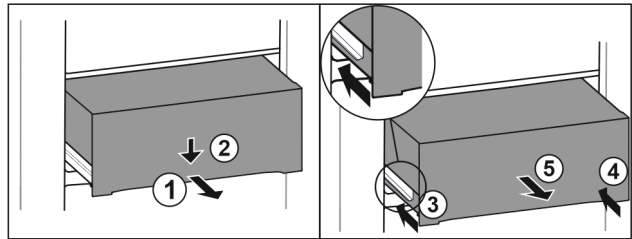

Fig. 136
- ▶ Pull out drawer half-way. Fig. 136 (1)
- ▶ Push the drawer down at the front. Fig. 136 (2)
- ▶ Push the left rail in by about 2 cm. Fig. 136 (3)
- ▶ Push the right rail in by about 2 cm. Fig. 136 (4)
- ▶ Remove drawer to the front. Fig. 136 (5)